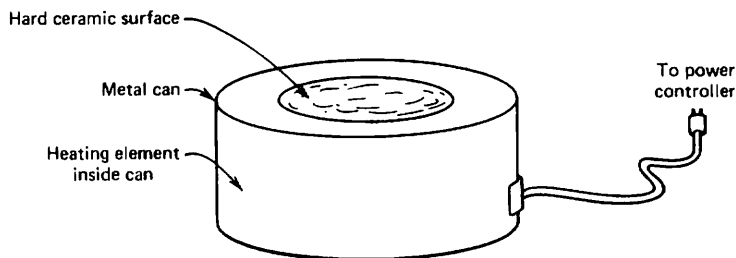

Fig. 84 A Thermowell heating mantle.
3. **Thermowell heating mantle.** You can think of the Thermowell heating mantle as the fiberglass heating mantle in a can. In addition, there is a hard ceramic shell that your flask fits into (Fig. 84). Besides just being